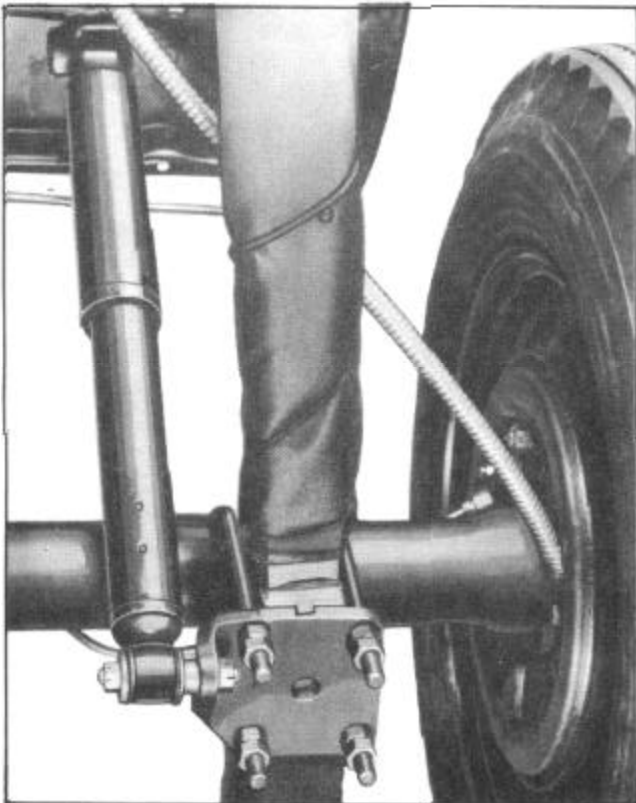

Figure 33--Rear Shock Absorber Mounting
1. Remove lower stud nut and washer, Figure 33.